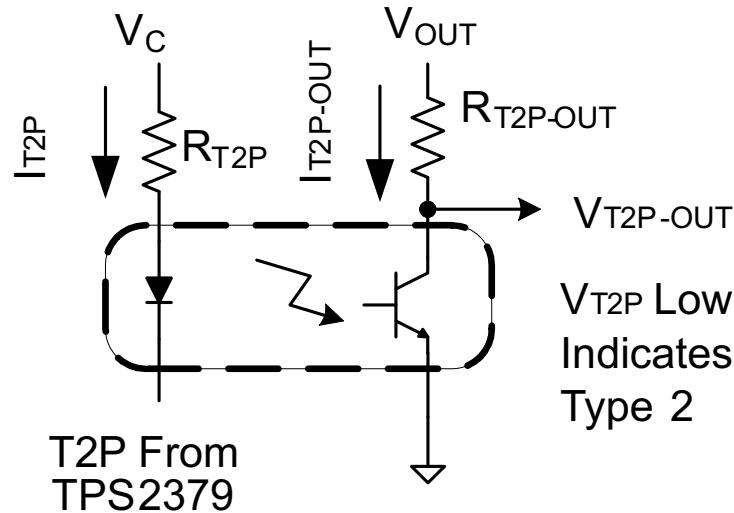

Figure 27. T2P Interface
The usage of T2P is demonstrated in Figure 27. When PSE applies and PD observes a type 2 hardware classification, T2P pin is pulled to RTN as a indication of the type of PSE.
- As shown in Figure 27, let $V_C = 12\text{ V}$, $V_{OUT} = 5\text{ V}$, $R_{T2P-OUT} = 10\text{ k}\Omega$, $V_{T2P} = 260\text{ mV}$, $V_{T2P-OUT} = 400\text{ mV}$.